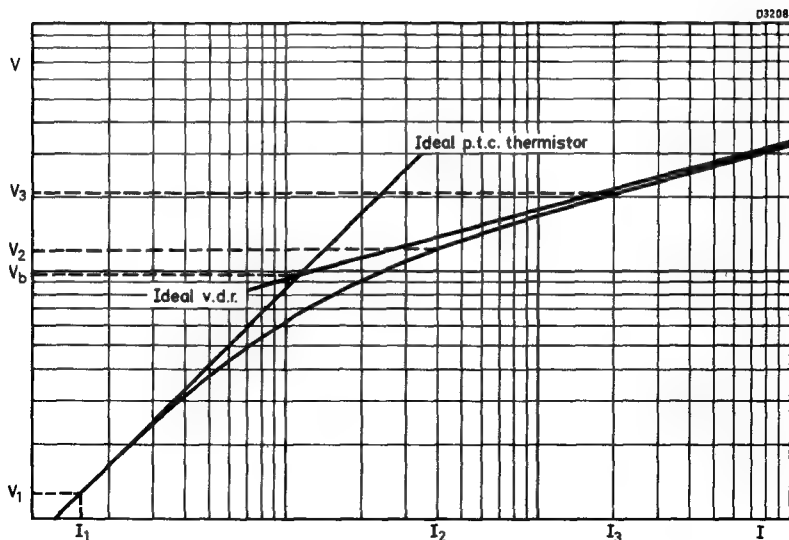

Fig. 10
P.T.C. thermistors exhibit a certain degree of voltage dependency at higher voltages. The equivalent circuit of a normal p.t.c. thermistor is an ideal p.t.c. thermistor having no voltage dependency, in parallel with an ideal voltage dependent resistor (v.d.r.) conforming to  $V \propto I^\beta$ . Figure 10 shows the voltage/current characteristic of a normal p.t.c. thermistor compared with these "ideal" components. These have been plotted on a log scale and the p.t.c. thermistor curves represent measurements made under pulse conditions.
**Balance voltage ( $V_b$ ).** The voltage at the intersection of the ideal p. t. c. thermistor and the ideal v. d. r. characteristic curves (see figure 10) is the balance voltage at which point the current through both ideal components is equal. Where applicable, balance voltage is given in data at a specified ambient temperature.